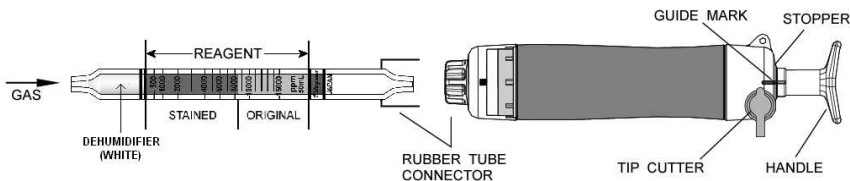

Fig.1
- ① Break both ends of the detector tube.
- ② Insert the detector tube into the aspirating pump securely as shown in Fig.1. (Arrow mark shall point to the pump.)
- ③ Align the guide marks on the shaft and stopper of the aspirating pump.
- ④ Pull the pump handle at a 1/2 pump stroke (to 50mL line) until it locks and wait for 45 seconds or until the completion of sampling is confirmed with the flow indicator of the pump (See descriptions about the flow indicator in the instruction manual of the pump).
- ⑤ On completion of sampling, read the scale at the maximum point of the stained layer.